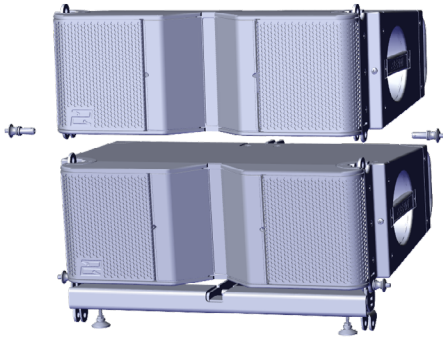

Figure 12
- Place the next module on top of the first NT206L and pin the front locations using the pins on the first cabinet (Figure 12).